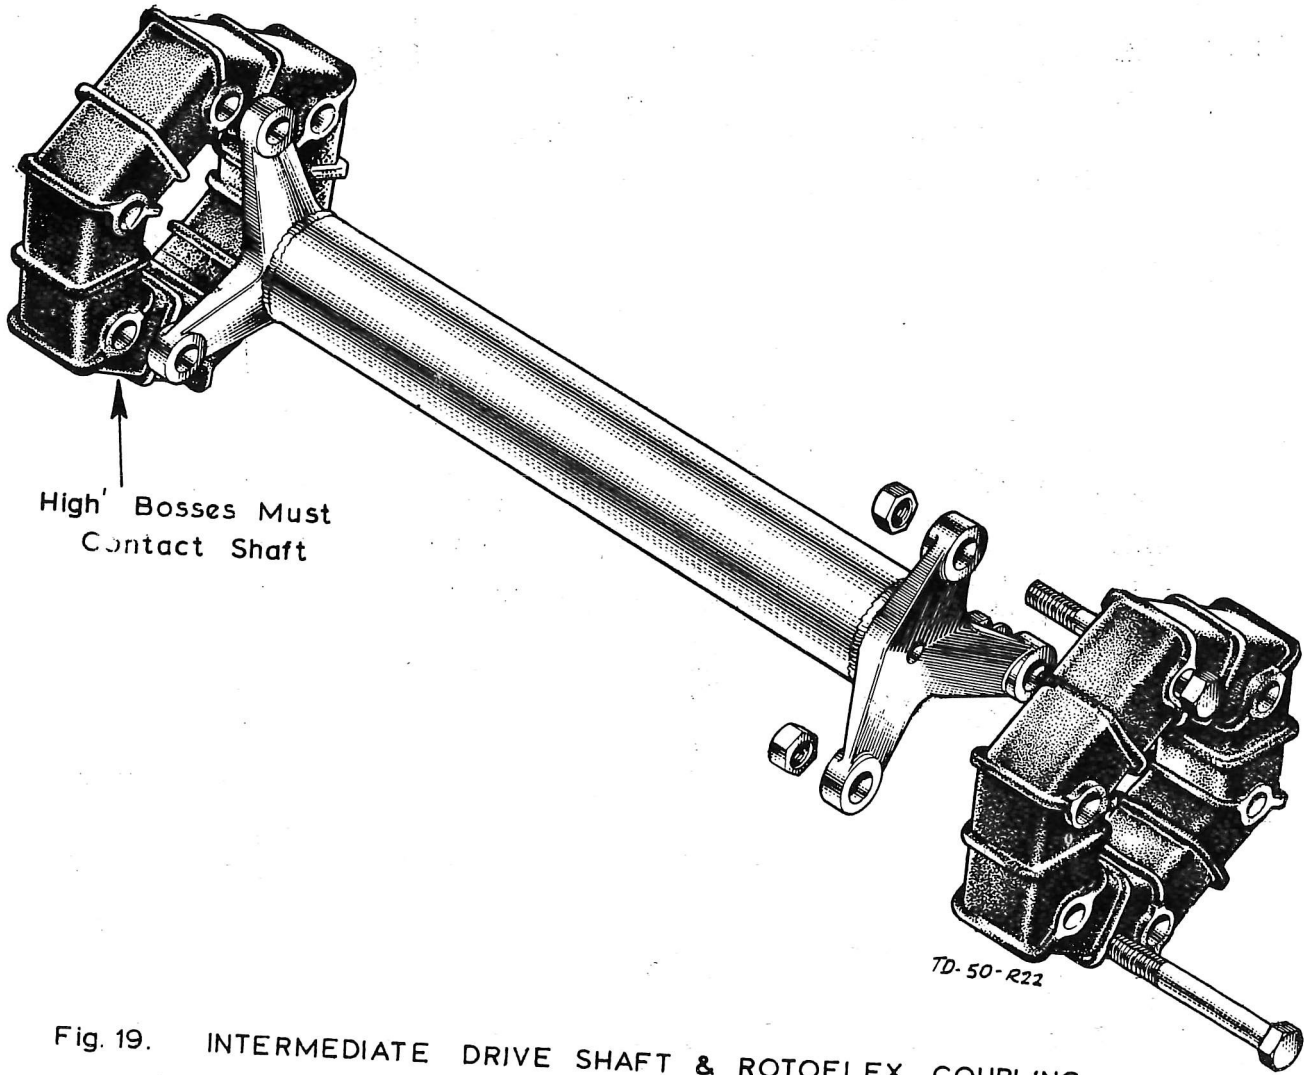

Fig. 19. INTERMEDIATE DRIVE SHAFT & ROTOFLEX COUPLING
1. Note that when replacing couplings there is a correct way to fit. Inspection of the coupling will show that the metal bosses are offset in the rubber, three each way. Correct fitting is with the three 'high' bosses on each face in contact with the flanges of drive shaft (Fig.19). Incorrect fitting will result in the drive shaft overall length being affected with a